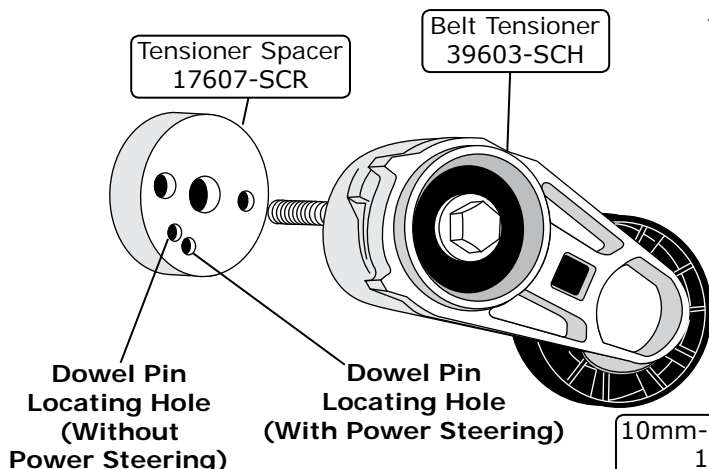

Figure 10
1. Install the tensioner spacer onto the back side of the belt tensioner (See Figure 10, below).
2. Install the belt tensioner with spacer through the belt tensioner bracket. **NOTE: Be sure to insert the dowel pin into the correct locating hole of the tensioner spacer (See Figure 10, below).** Secure the belt tensioner with spacer to the belt tensioner bracket using a 10mm-1.50 x 90mm SS hex bolt, (2) 10mm SS flat washers and a 10mm-1.50 SS nyloc nut (See Figure 10a, below). Torque to 21 ± 2 lb ft.